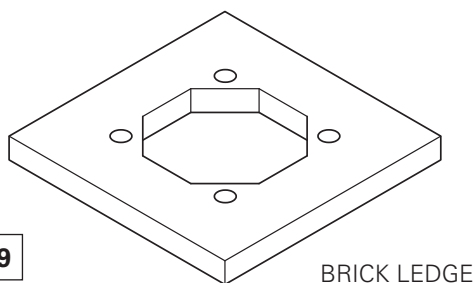

FIGURE 39
(1) If the horizontal distance from the roof ridge to the opening of the chimney is less than 10', the top of the chimney must be at least 2' above the roof ridge.
(2) If the horizontal distance from the opening of the chimney to the roof ridge is more than 10' then a chimney height "work point" is established on the roof surface 10' horizontally from the opening of the chimney. The top of the chimney must be at least 2' above this work point.
(3) In all cases, the chimney cannot be less than 3' above the roof at the edge of the chimney. **(Figures 39 & 40)**